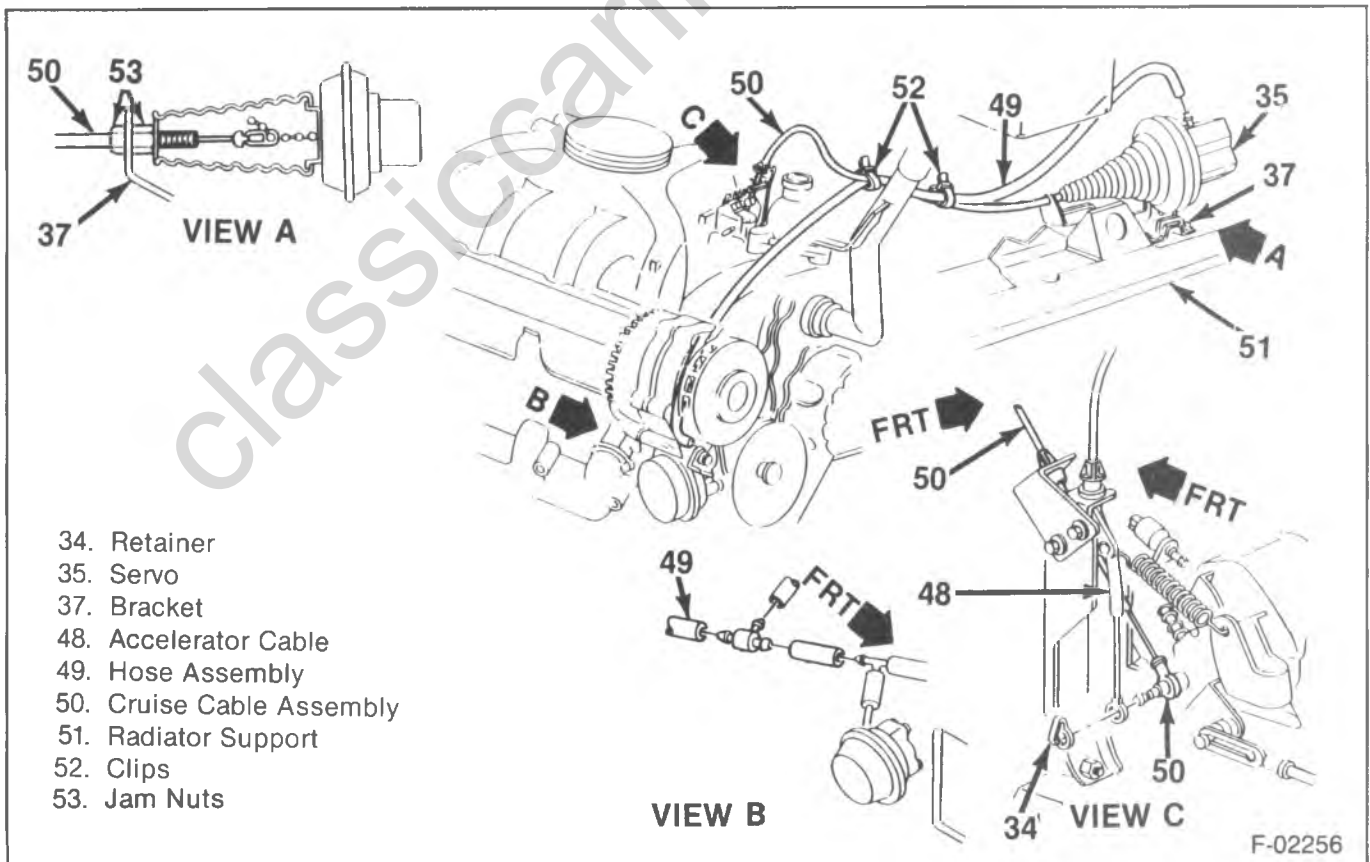
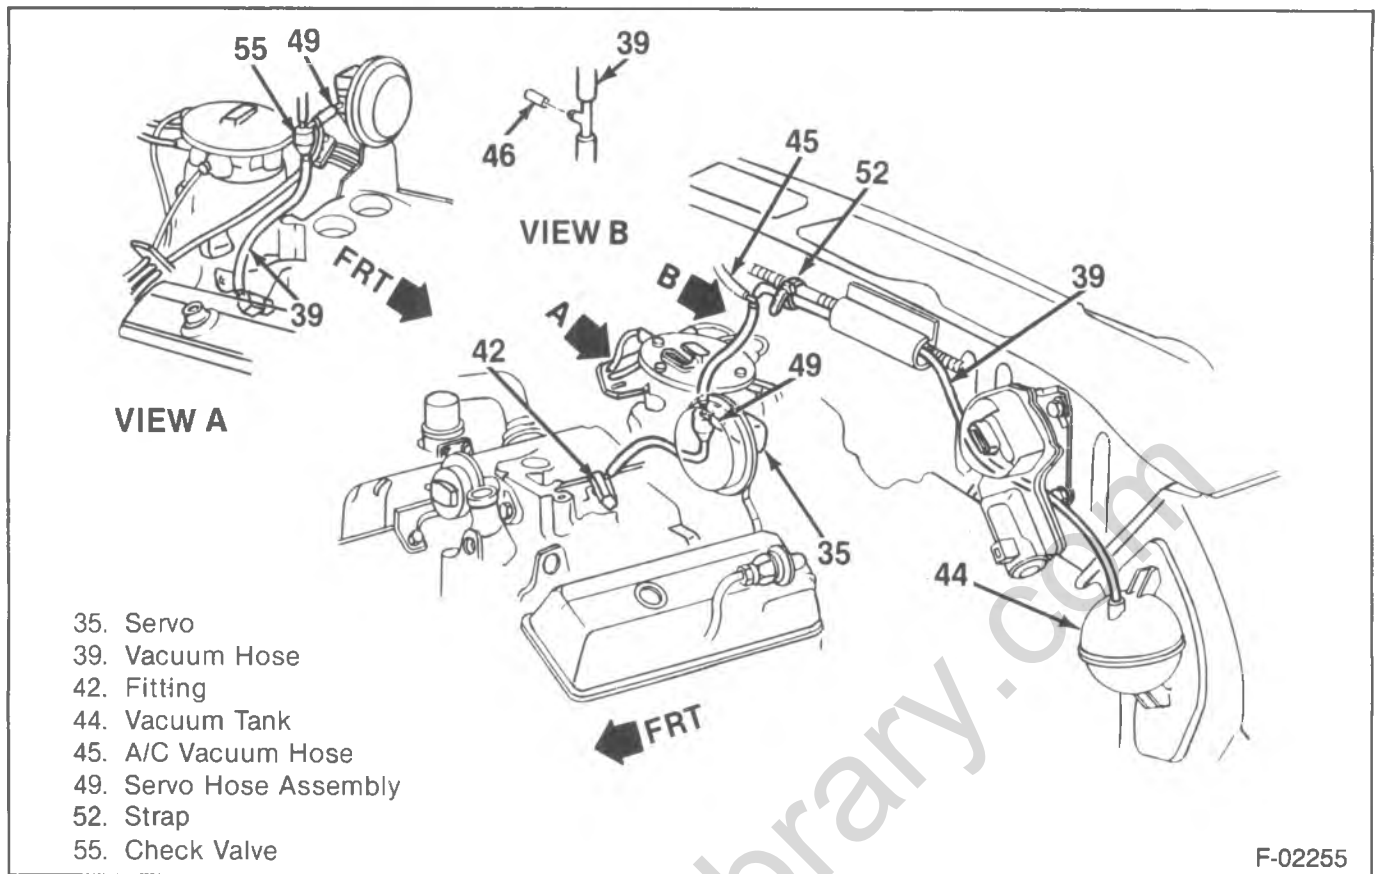

Figure 16—Servo Mounting (G-Van Diesel)
Figure 17—Vacuum Hose Routing (RV-Truck V6)
1. Vacuum hoses (39) and hose assembly (49).
2. Retainer (34).
3. Rod (33).
4. Cruise cable assembly (50) (figure 16).
5. Bolts (36) and servo (35).
- Cruise cable assembly (50) to the third ball on the servo chain (figure 16).
- Jam nut (53) until the cable sleeve at the throttle lever is tight but not holding the throttle open (figure 16).
5. Retainer (34).
6. Vacuum hoses (39) and hose assembly (49). Refer to figures 17 through 20 for hose routings.